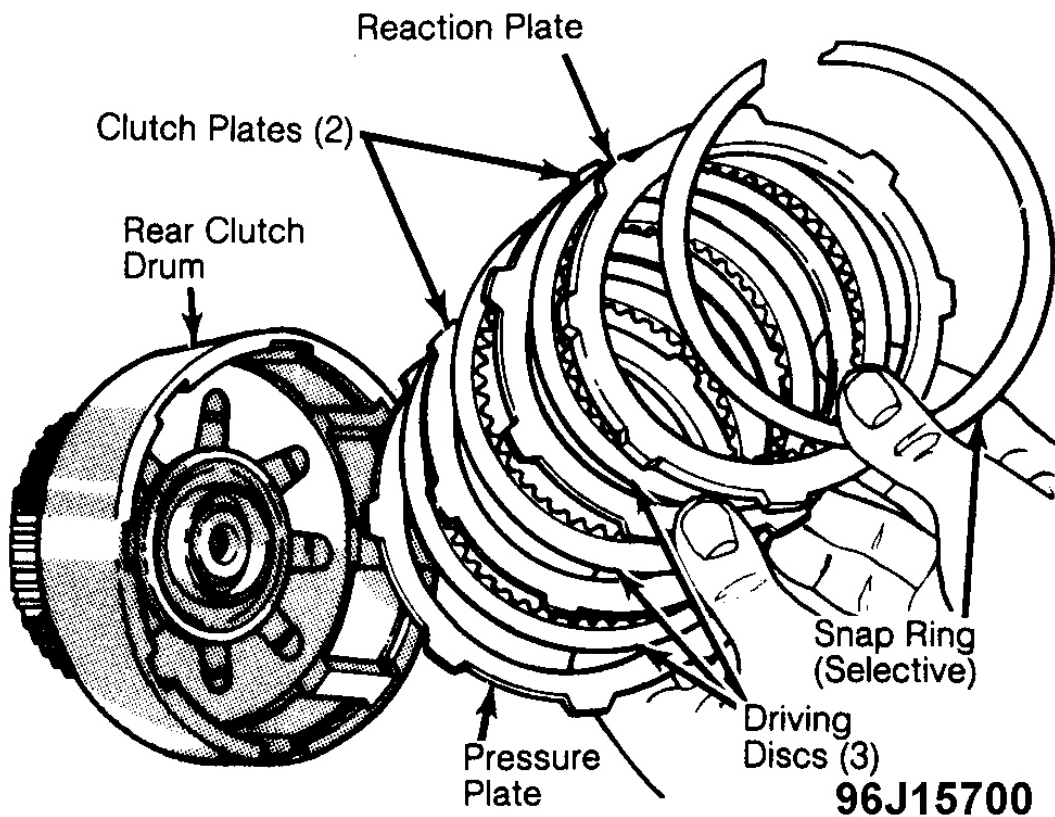

Fig. 18: Installing Clutch Plates & Driving Discs
1. To reassemble, reverse disassembly procedure. Install clutch plates and driving discs into rear clutch drum. See **Fig. 18**.